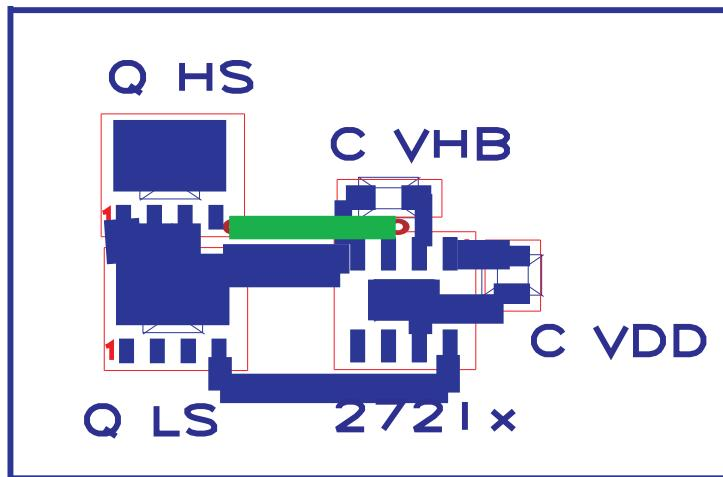

图 24. UCC27210/11 Component Placement
- Locate the V_{DD} - V_{SS} and V_{HB} - V_{HS} (bootstrap) capacitors as close as possible to the device (see 图 24).
- Pay close attention to the GND trace. Use the thermal pad of the DDA and DRM package as GND by connecting it to the VSS pin (GND). The GND trace from the driver goes directly to the source of the MOSFET but should not be in the high current path of the MOSFET(S) drain or source current.